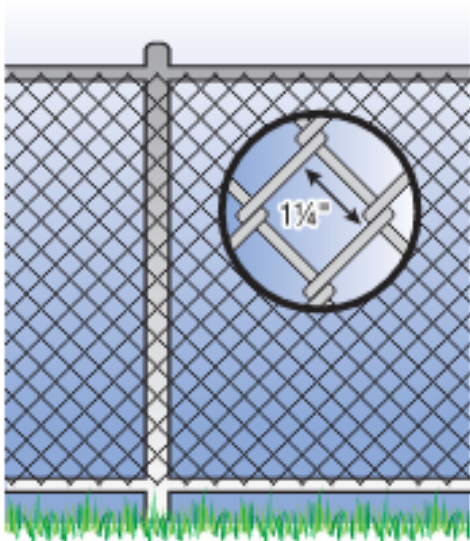

Figure 7
8. **Maximum mesh size for chain link fences** should not exceed 1-1/4 inch square unless the fence is provided with slats fastened at the top of the bottom which reduce the openings to no more than 1-3/4 inches. (figure 7 & 8)